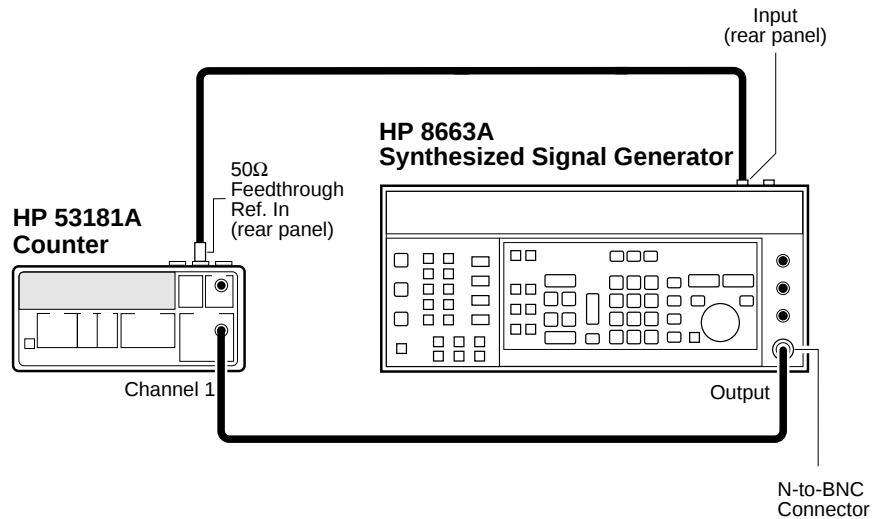

Figure 1-12. Channels 1 Frequency Sensitivity Test Setup
- 1 Connect the equipment as shown in Figure 1-12 with the signal generator connected to Channel 1 of the Counter.**